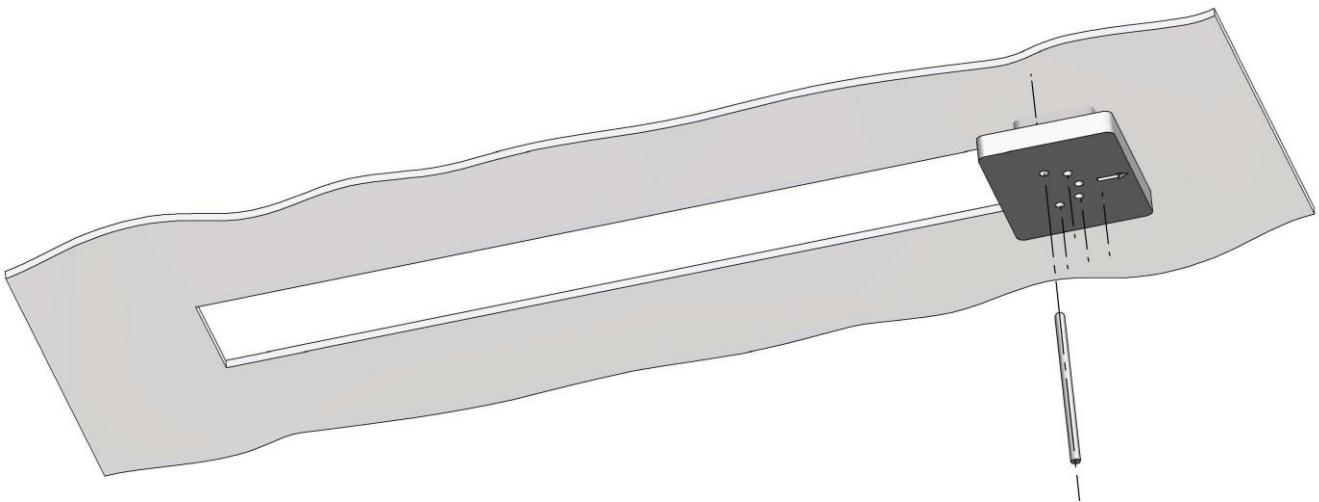

Fig.3
4. Hold the template, and then guide the marker through the holes in the template to mark the drilling of holes mounting in the fixed ceiling, (**Fig.3**).